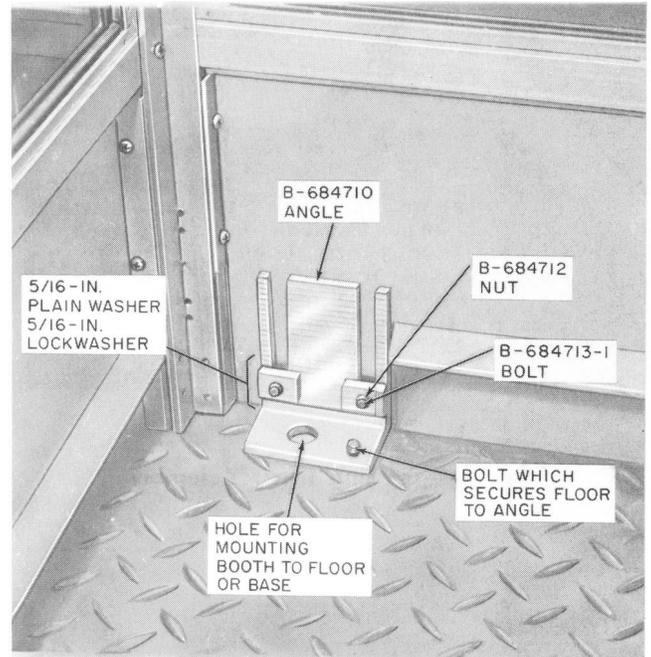
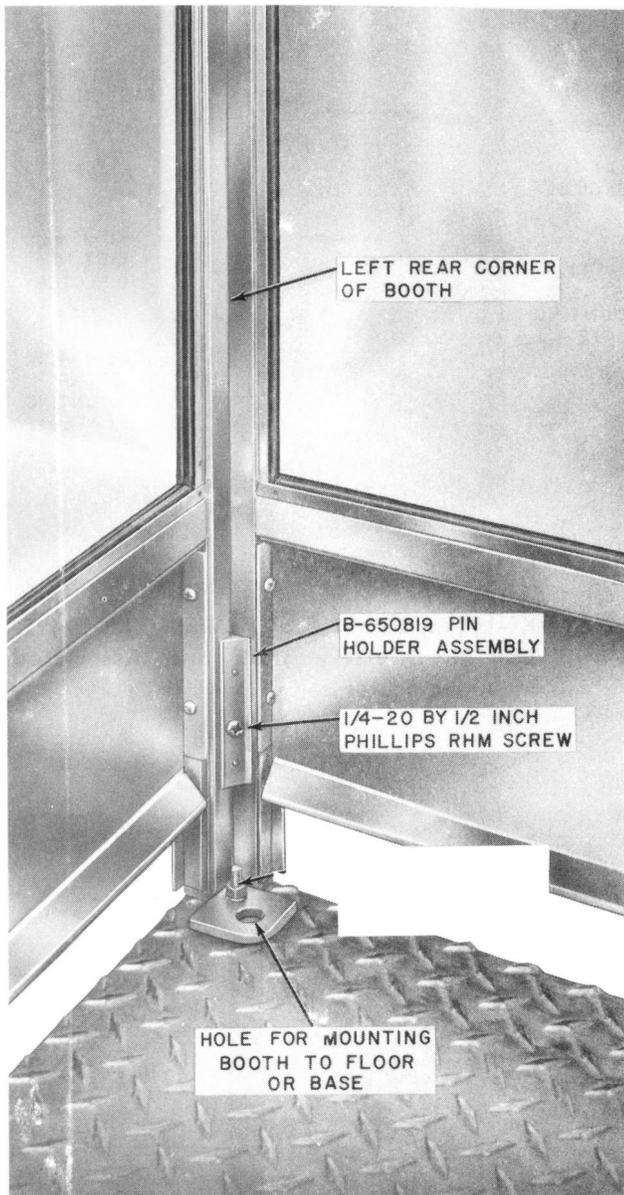

Fig. 13—Mounting and Leveling Angle
Fig. 14—Leveling Insert Assembly
2.23 An aluminum tread floor (Fig. 13 and 14) is furnished.
2.24 Adjustable angles (Fig. 13) are provided to facilitate booth leveling up to 3 inches. They are also used for bolting the booth to its mounting surface. Leveling inserts shown in Fig. 14 have been MD.
(d) Adjust the leveling insert assemblies or angles (Fig. 13 or 14) if necessary, and ensure that the booth is level.
Note: Insert assemblies (Fig. 14) are adjusted by moving the B-650819 pin holder assembly up or down.